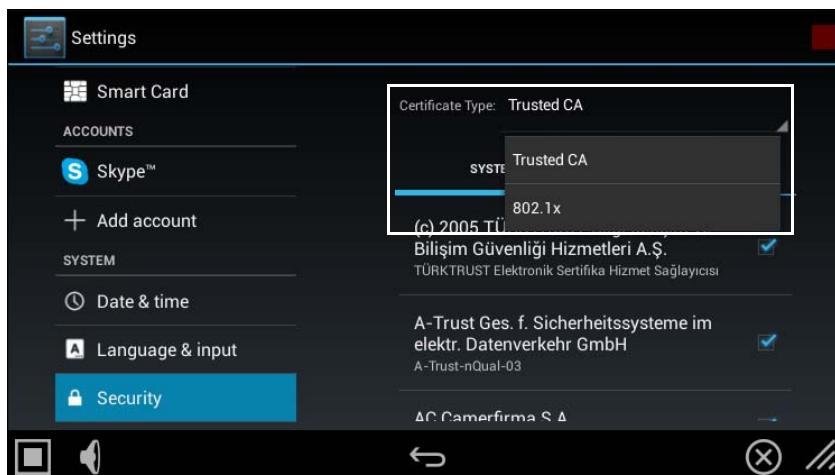

FIG. 105 Security page - Certificate Type menu
3. Supported Certificate Types include Trusted CA and 802.x1. Note that each list has two tabs: *System* and *User*. To select which type of certificate to display, select either *Trusted CA* or *802.x1* from the **Certificate Type** drop-down menu (FIG. 105):